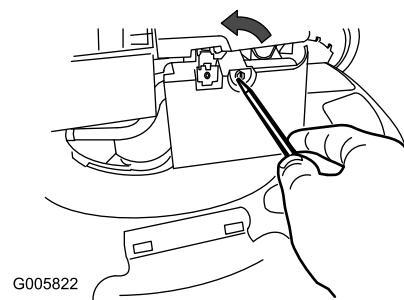

Figure 20
1. Use a screw driver to open the air filter cover (Figure 20).